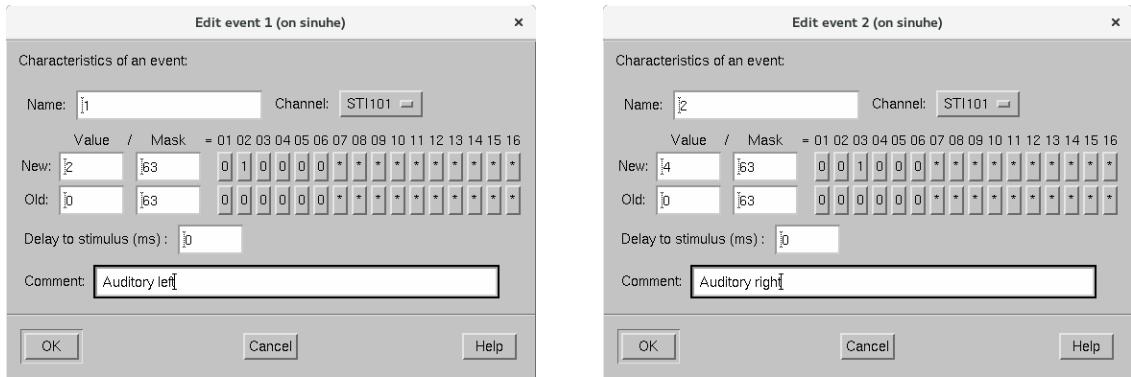

Figure 31: Event characteristics for auditory trigger events.
- Select **Change** next to **On-line averaging**, then select **Change** to set **Event characteristics** (Figure 31):